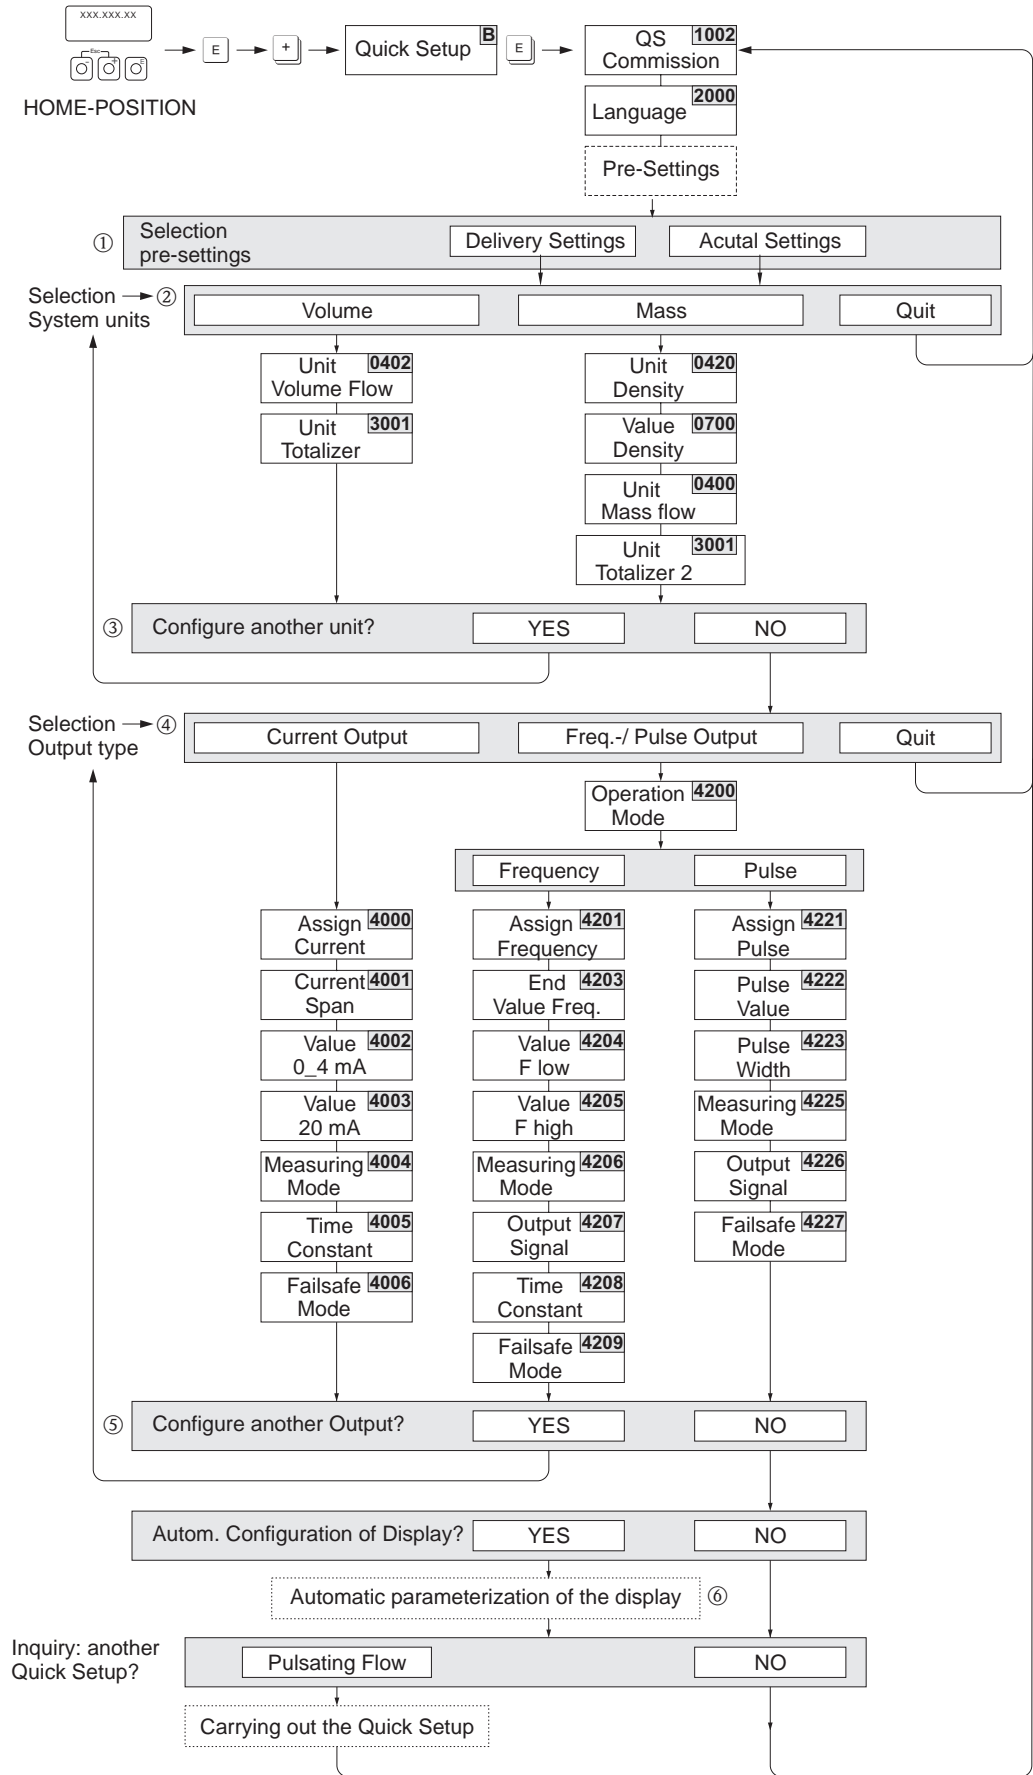

Fig. 47: Quick Setup for straightforward commissioning
3. Switch HART write protection on or off, as applicable, by means of the jumper (Fig. 47).